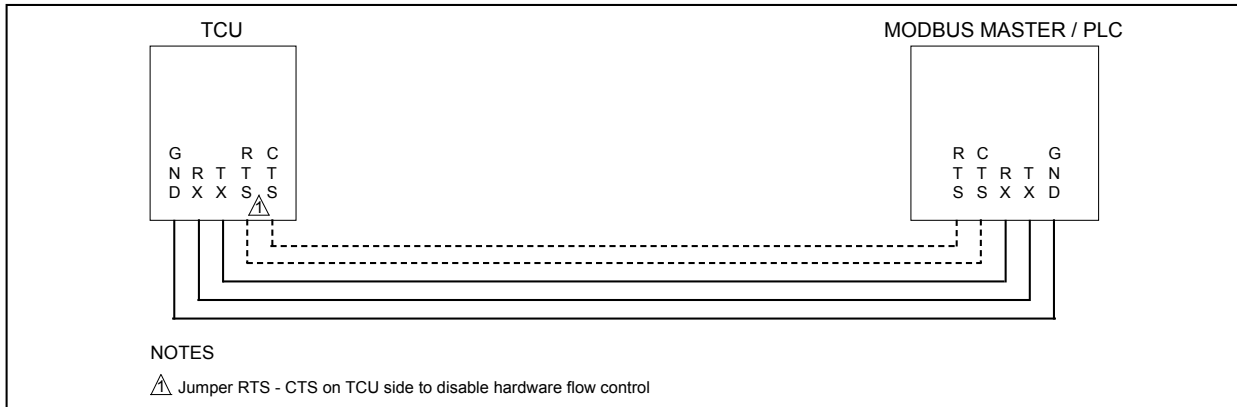

Figure 5-1, "TCU Communicating with Modbus Master / PLC"
- Figure 5-1, "TCU Communicating with Modbus Master / PLC"